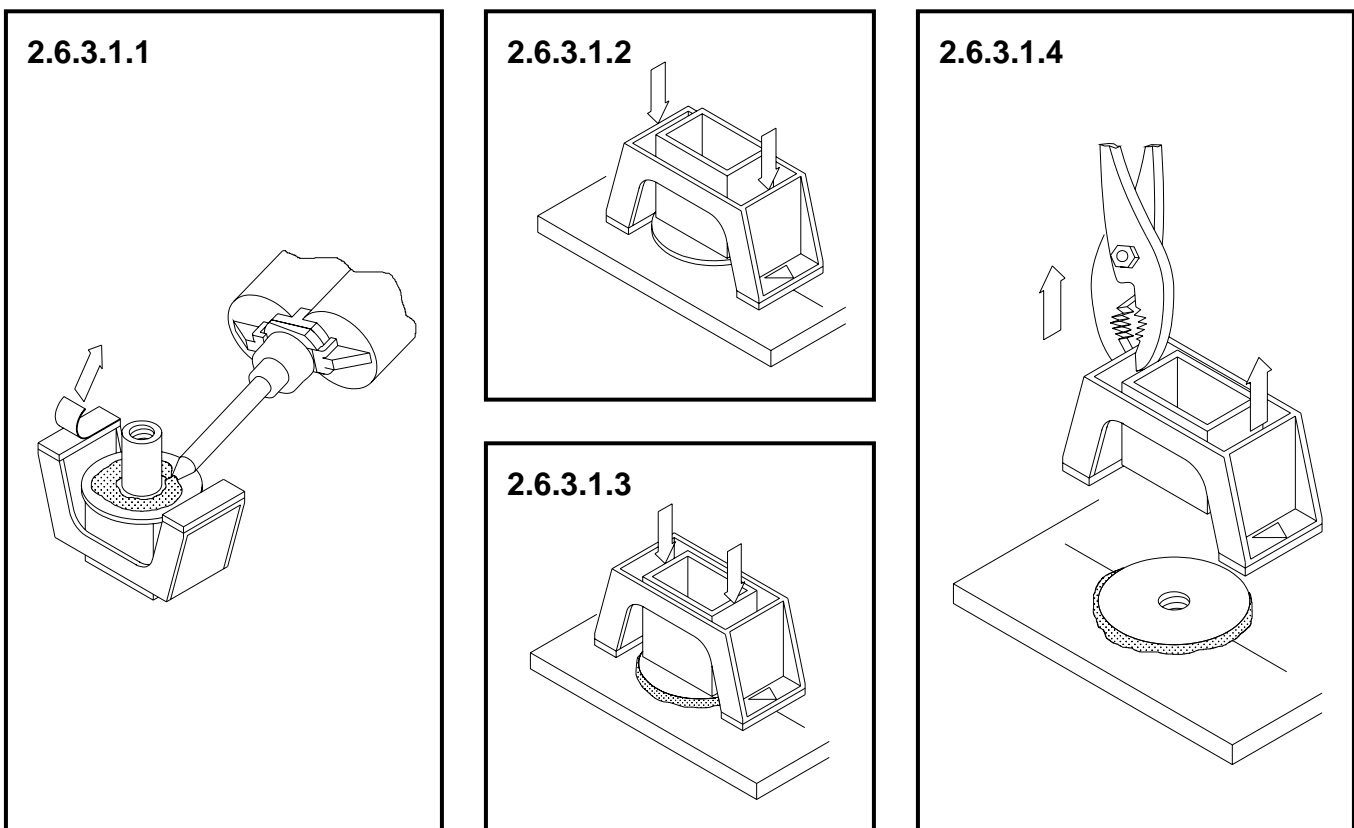

FIGURE 8. PROCEDURE FOR ATTACHMENT OF CLICK BOND BUSHING
2.6.3.1 Bushings – Disposable Plastic Pressure Application Fixture (PAF) type. Figure 8 indicates the sequential steps required to attach the Click Bond fixture to the substrate and to activate the fixture to put bonding pressure on the fastener baseplate.